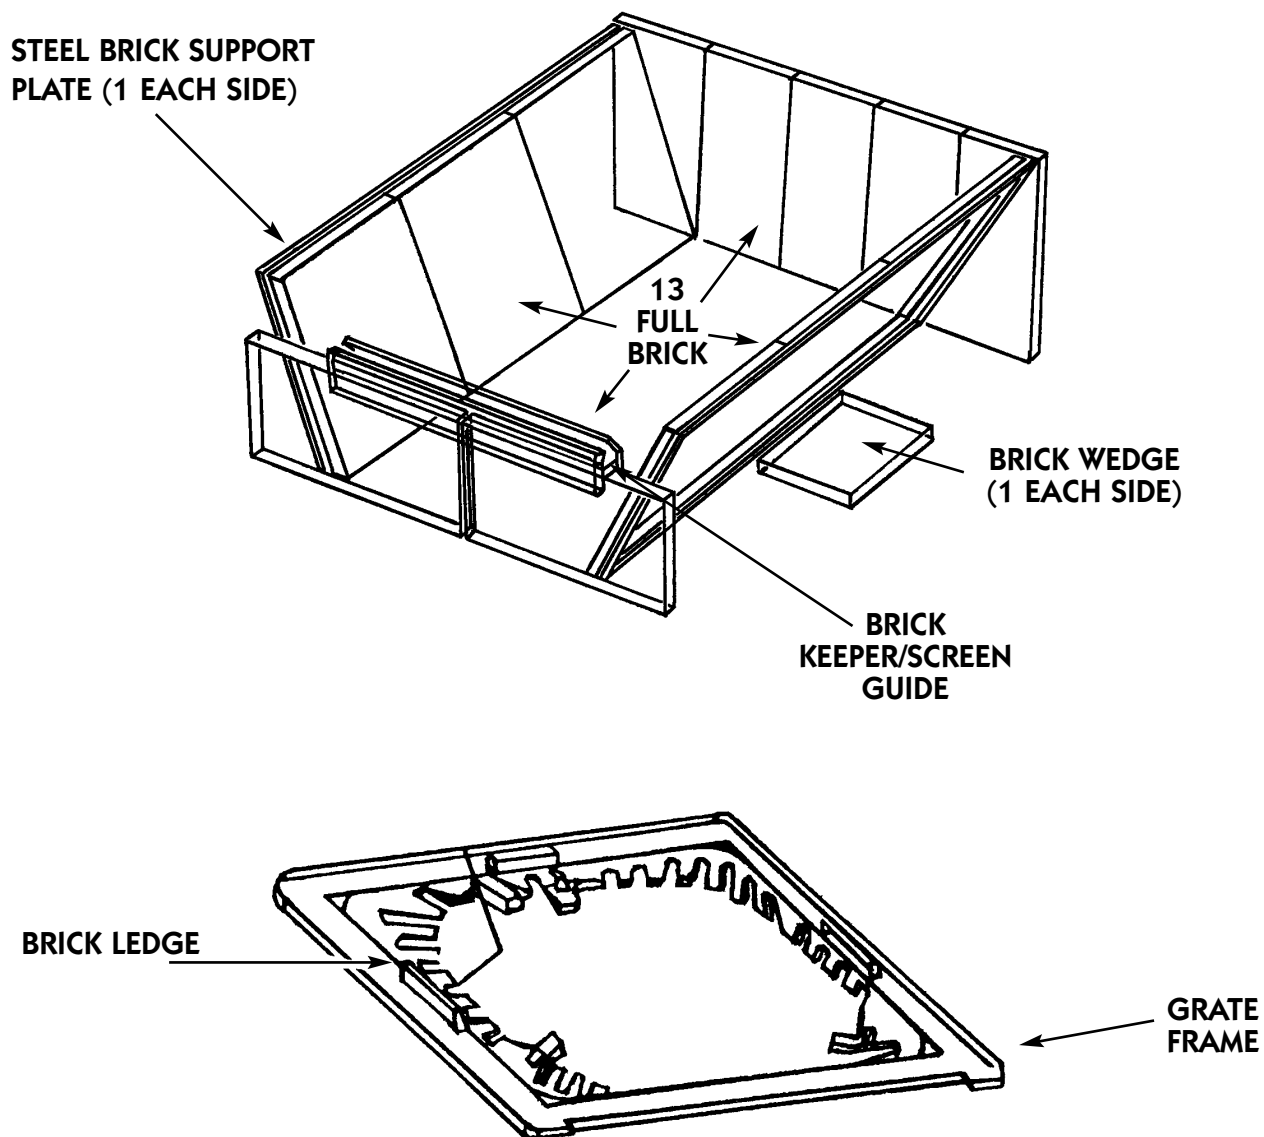

Figure 3
- B) Open **View Door** and see that the Fire Brick is properly positioned. (*See Fig. 3*) the back and front brick should sit against the front and back of the stove body, flush to metal. End brick should push to sides of the stove body, locking onto lugs on grate carriage and wedging the front and back bricks.